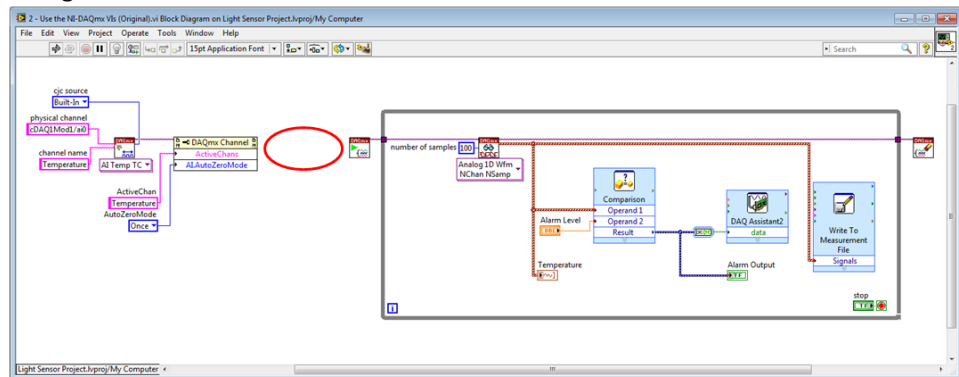

Figure 3. The lower-level NI-DAQmx API follows a logical pattern.
- c. Navigate to the left-most section of code on the diagram, as shown in Figure 3.